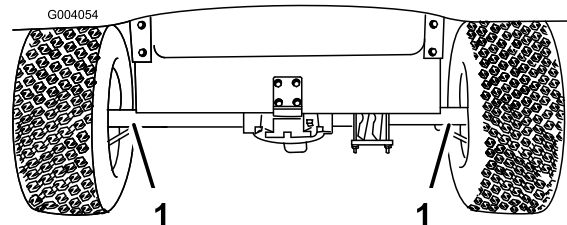
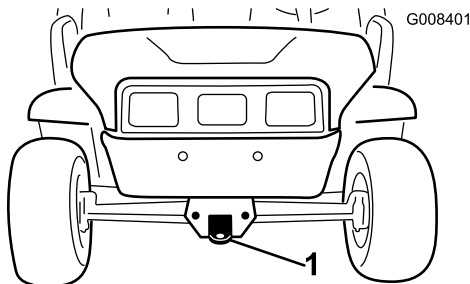

Figure 20
Figure 21
For moving the vehicle long distances, a trailer should be used. Make sure that the vehicle is secured to the trailer. Refer to Figure 20 and Figure 21 for the location of the tie-down points.
2. Affix a tow line to the tongue on the front of the frame (Figure 21).